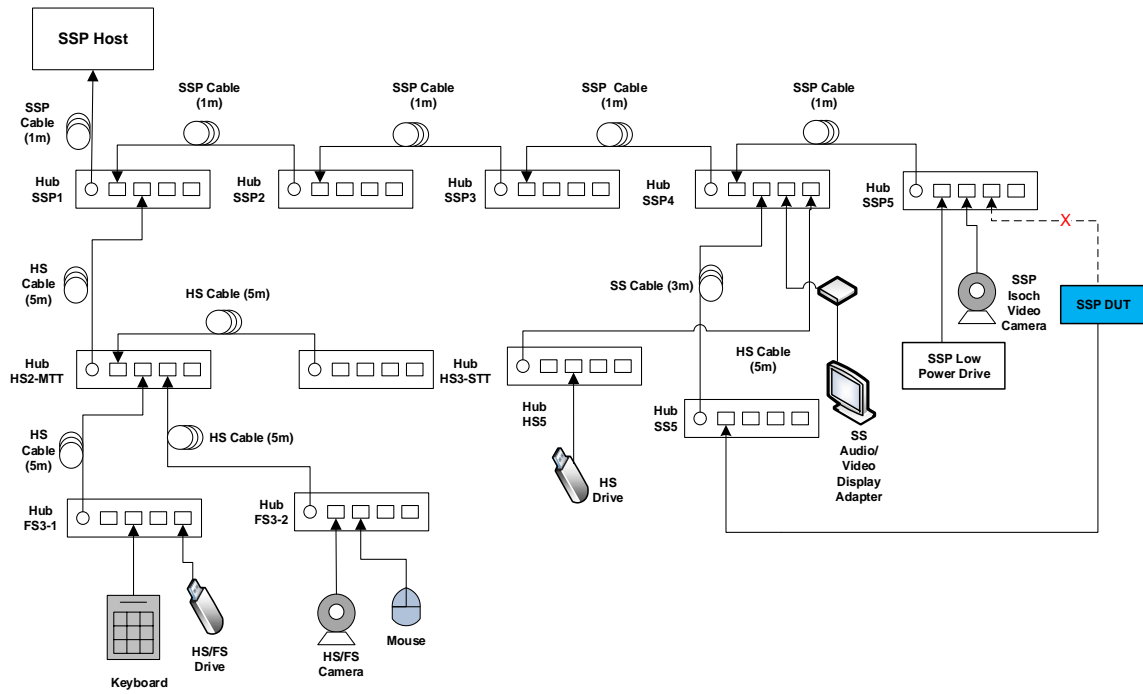
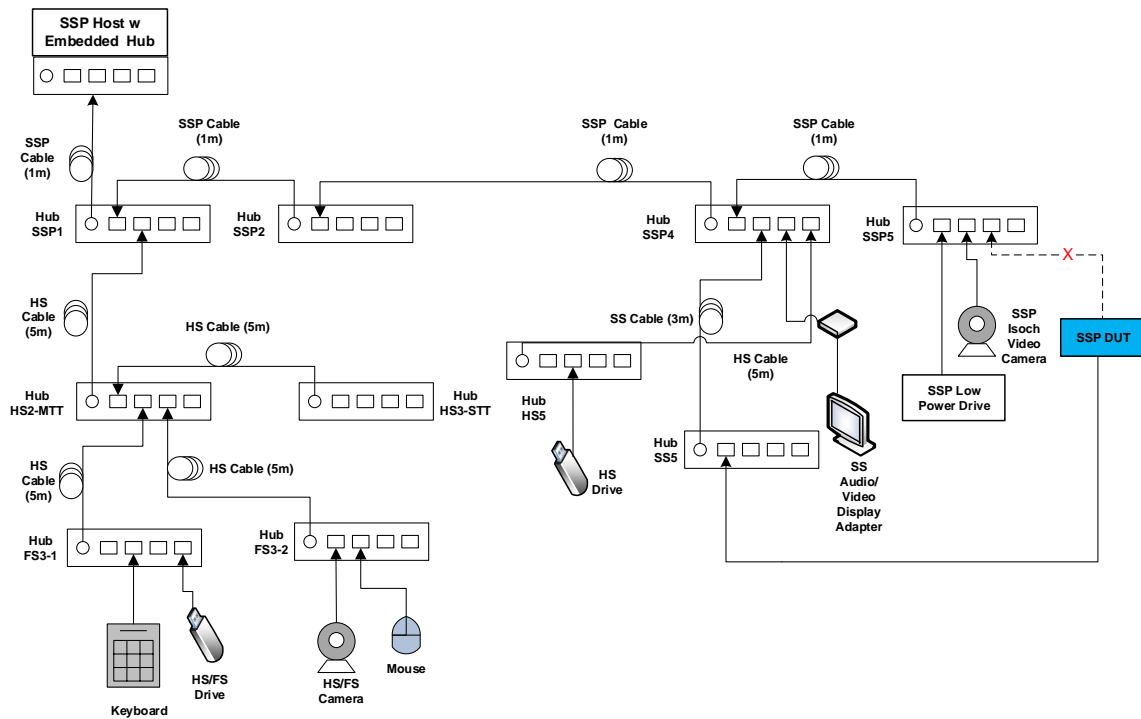

Figure 2-3: Topology Change 1
Figure 2-4: Topology Change 1 (embedded hub)
- While operating the devices, reattach the Device Under Test to port 1 on Hub SS5 as shown in Figure 2-3 and Figure 2-4.